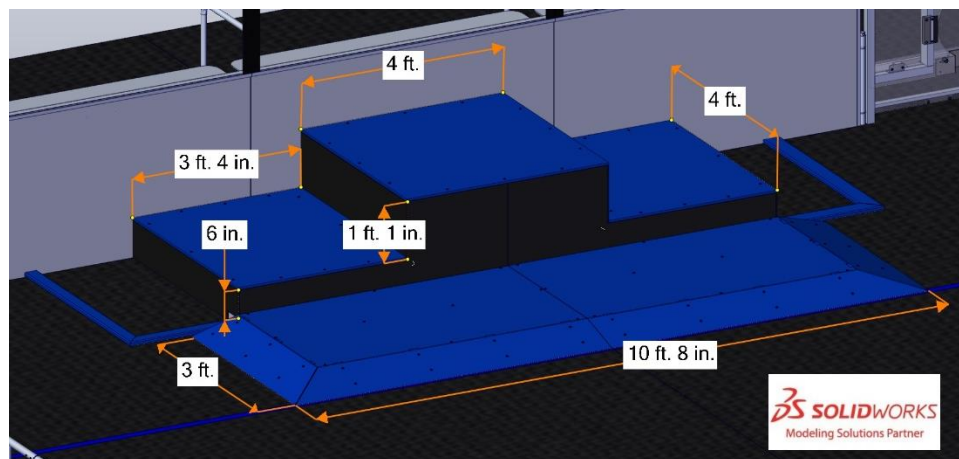

Figure 4-20 Blue HAB PLATFORM with major dimensions.
The HAB PLATFORM consists of a ramp, four (4) decks at three levels, the ALLIANCE colored tape that traces the intersection of the ramp and the carpet, and all relevant supporting structure. Major HAB PLATFORM dimensions are as shown in Figure 4-20.